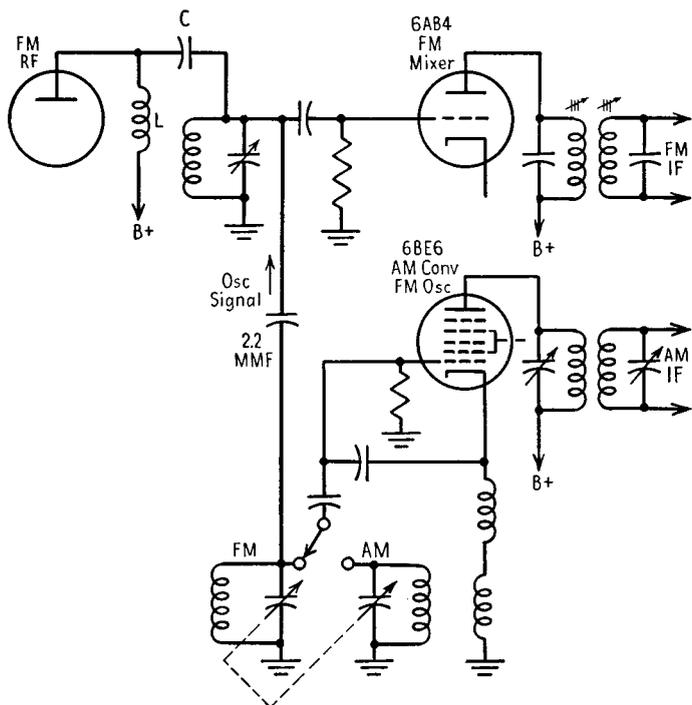

FIG. 24-8. A typical F-M converter system.
**Frequency conversion.** Again, the frequency converter in F-M sets has the same function as in A-M sets. However, the higher frequencies involved in the former case make for new design considerations. Most sets have separate mixer and oscillator tubes, instead of a single converter. In A-M/F-M sets, the oscillator section of the A-M converter, like the 6BE6, is often used with proper switching as the oscillator for the F-M mixer. Such a typical setup is shown in Fig. 24-8. A 6AB4 is used as a triode mixer. Coupling between the oscillator and the mixer is by means of a 2.2-mmfd condenser.